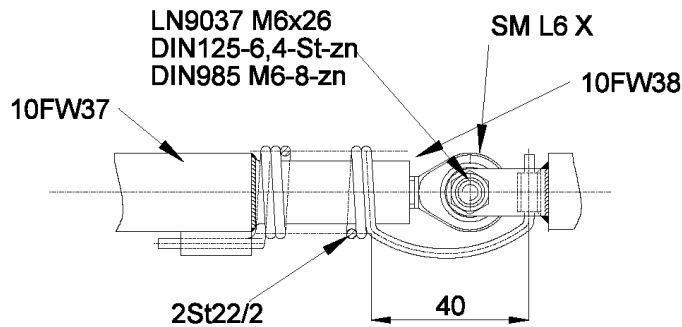

figure 15
9. Turn in the rod end between pushrods 10FW37 and 10FW38 (see figure 15) completely and thereafter unscrew it a half turn.
11. Reinstall the spring and reconnect the pushrods 10FW37 and 10FW38 (see figure 15).